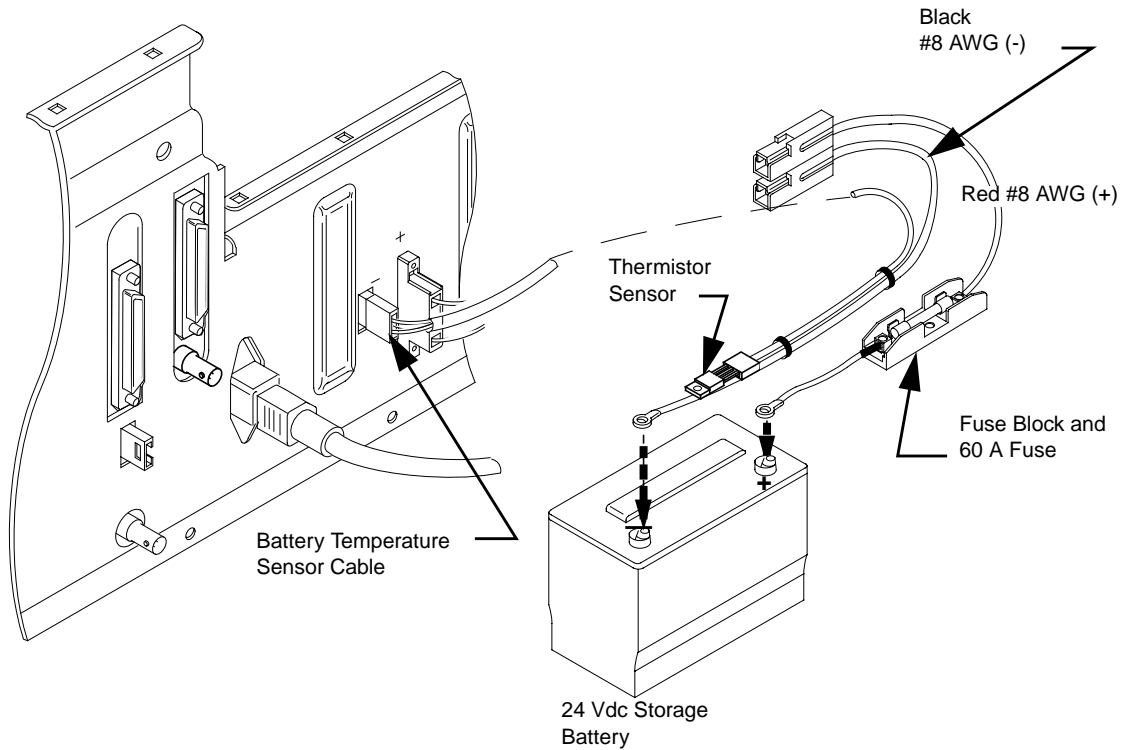

Figure 5-10: Battery Revert for a Standard Power Nucleus Paging Station
1. Connect the black (negative) #8 AWG wire to the negative terminal on the battery (see Figure 5-10).